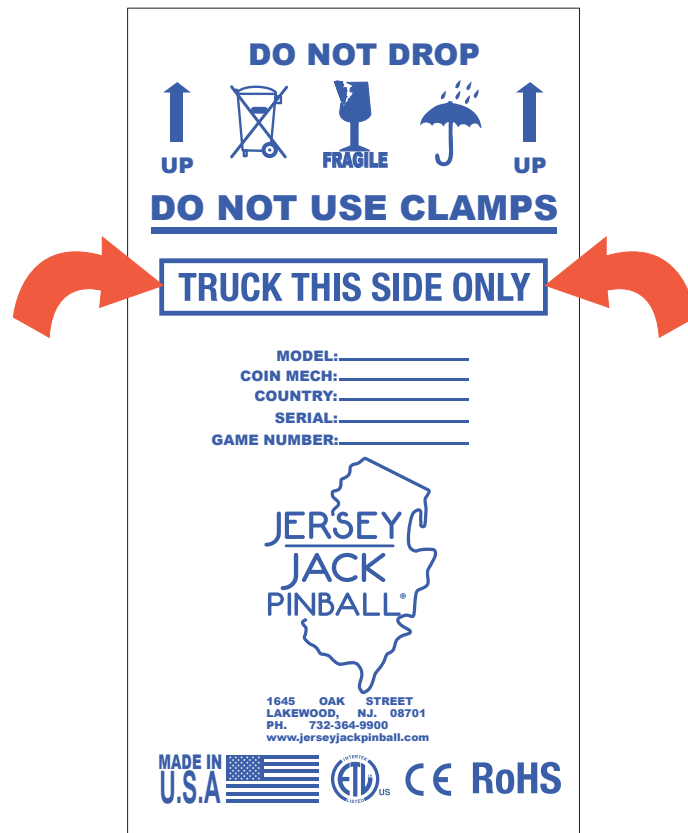
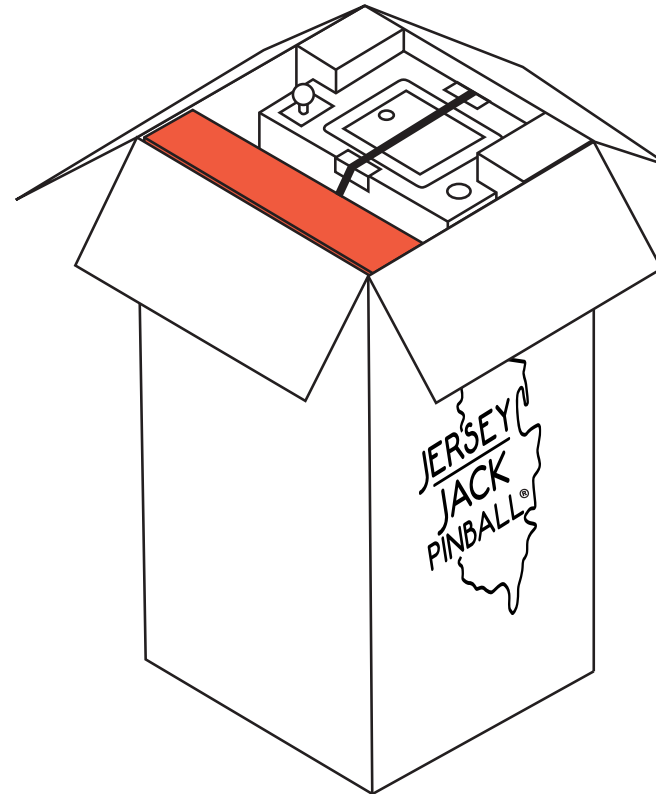

Figure A1. The “TRUCK THIS SIDE ONLY” side of the box.
Figure A2. Opening the shipping carton.
1) Using wire cutters, remove all shipping bands from the outside of the carton, noting the side with the “TRUCK THIS SIDE ONLY” marking (see figure A1). With a utility knife and needle-nose pliers, carefully cut the tape and remove all staples along the seams of the carton’s top flaps, then fold them open (see figure A2). Remove the large, flat sheet of cardboard. Pull out the large parts box (red in figure A2) and remove its contents. Check all loose parts against the packing list on this page.